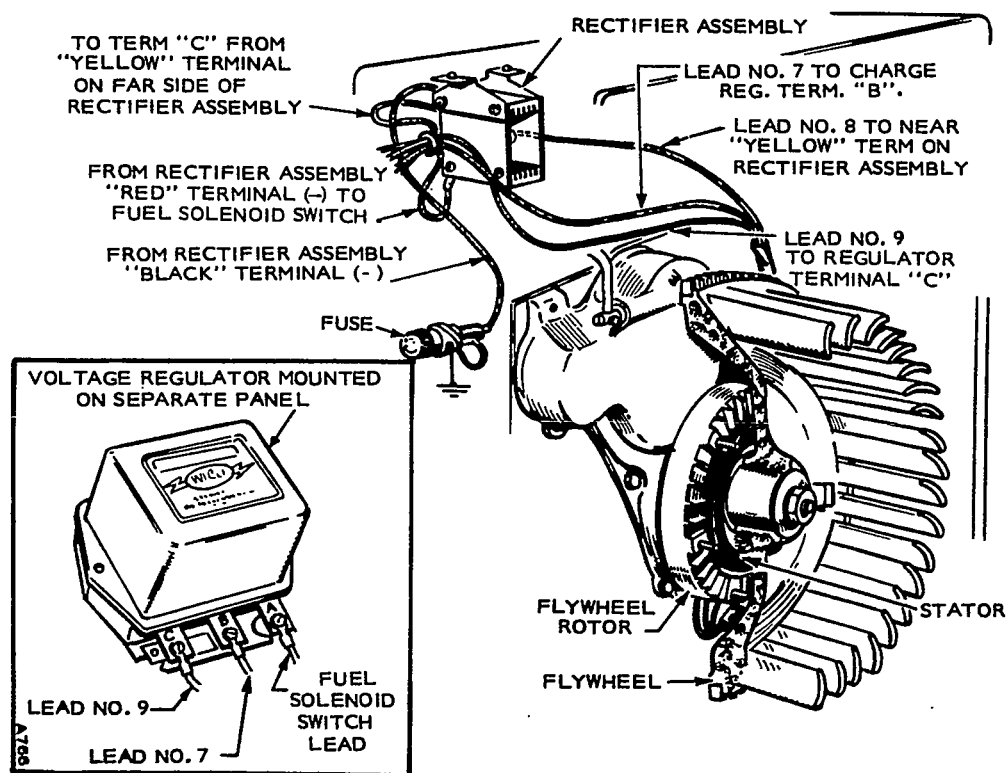

FIGURE 38. FLYWHEEL ALTERNATOR (PRIOR TO SPEC V).
There are four major components in this battery charging system: (1) a permanent magnet on the flywheel provides a rotating magnetic field; (2) a group of coils mounted behind the flywheel on the gear cover cut the field to produce a voltage; (3) a two-step mechanical regulator controls the AC voltage to the rectifier, and (4) a full wave rectifier converts the regulated AC to DC for battery charging. These are shown in Figures 38 and 39.